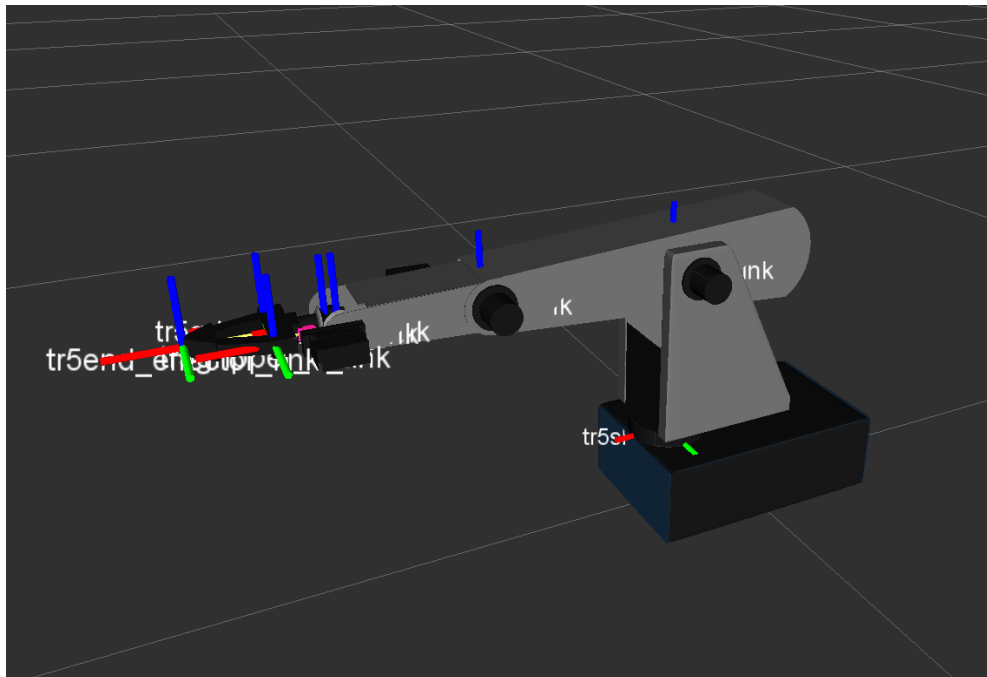

Figure 14 - Robot model depicted in RVIZ. The X, Y and Z axis are represented by red, green and blue respectively
- In the end of the worksheet you must be able to see the finalized robot_model in RVIZ with all the correct distances between each frame (see Figure 14).